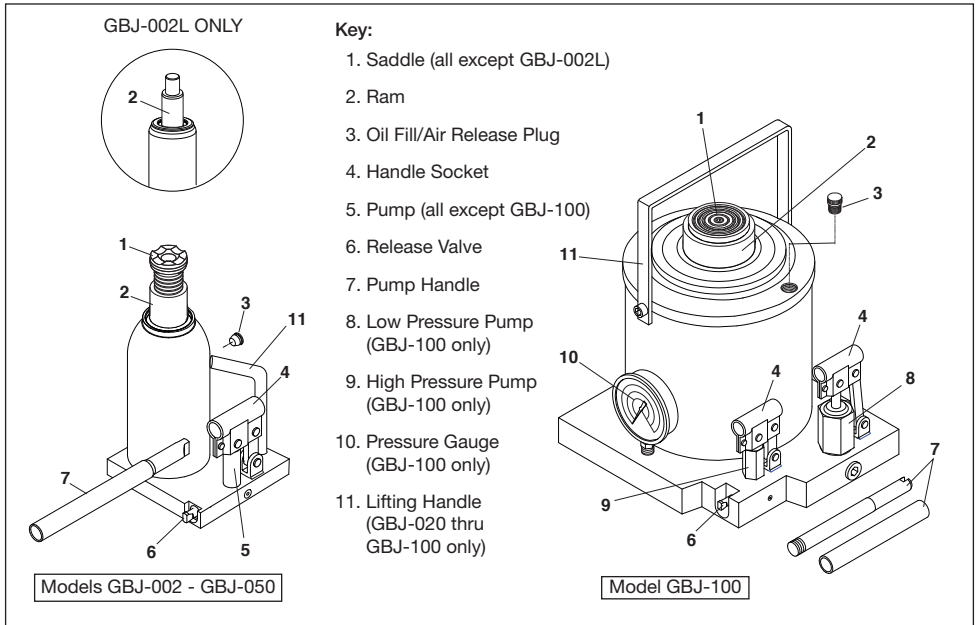

Fig. 2 - Features and Components
**Note:** Models GBJ-020 through GBJ-100: Refer to Fig. 2 for location of jack lifting handle (item #11).